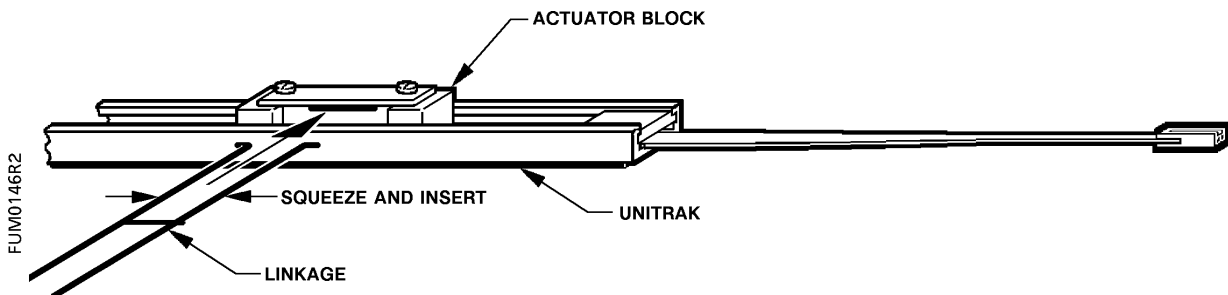

Figure 7. Attaching Linkage to Actuator Block.
8. Attach the linkage to the actuator block by pinching the upper end of the linkage together and inserting it through the holes in the side of the actuator block. See Figure 7.
7. Attach the linkage to the actuator block by pinching the upper end of the linkage together and inserting it through the holes on the side of the actuator block. See Figure 7.